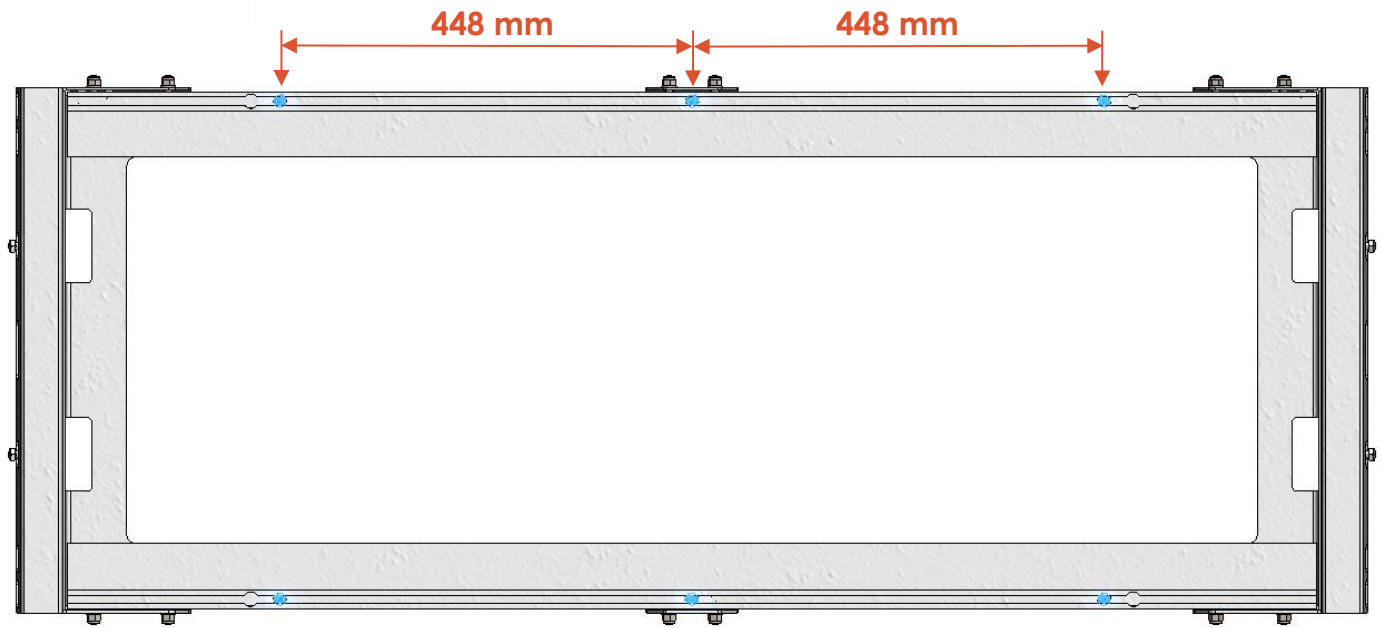

Fig. 2.2.2
- **For the large lock box:** Slide 3 x M8 x 20 hexagonal screws into each top rail on the side of the ammo box rack. Confirm the spacing between the screws. Fig. 2.2.2